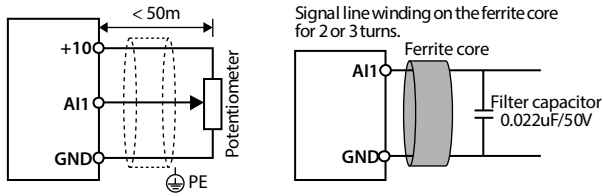

Figure 4-7 AI1 connection
The AI1 is voltage input and the range is 0 - 10V, as shown in Figure 4-7.
2. In serious interference occasions, the analogue input signal should add filter capacitor and ferrite core, as shown in Figure 4-7.